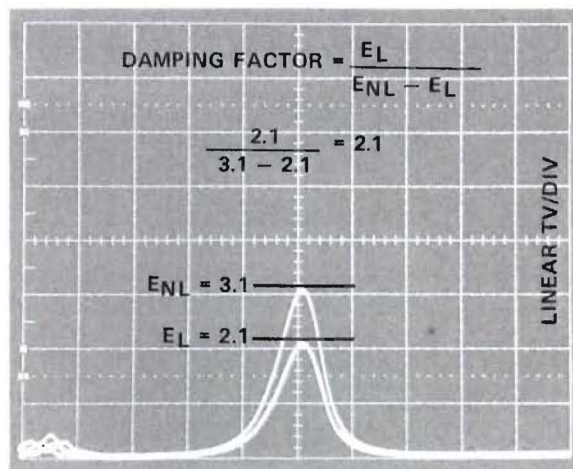

Figure 33 Damping Factor Indication
4. Disconnect the amplifier load with the switch and remeasure the signal voltage as shown in Figure 33. Duration of the no load condition should be kept short to protect the amplifier.